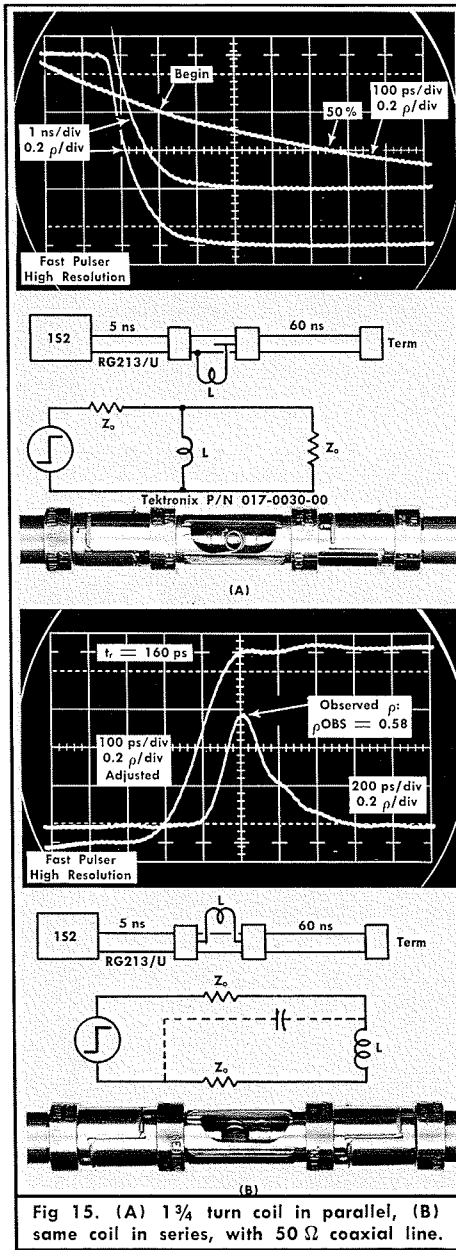

Fig 15. (A) $1\frac{3}{4}$ turn coil in parallel, (B) same coil in series, with $50\ \Omega$ coaxial line.
Fig 15 is an example of TDR displays from a small inductor ($1\frac{3}{4}$ turn) placed in parallel with a $50\ \Omega$ line at (A), and in series with the $50\ \Omega$ line at (B). Calculations were made on Fig 15A first because the display is a clean exponential that permits L/R time constant analysis. Waveforms #1 and #2 of Fig 15A show first the full exponential decay through five CRT divisions, then at #2 the waveform was positioned vertically so the exponential end is at -1 division. Waveform #3 used the same vertical calibration, but was time expanded to obtain the new 100% to 50% time duration.
Fig. 30A shows the basic display. L/R time-constant analysis is similar to that of Fig. 15 and formula (8) of Table 5, except the core R is in parallel with the driving line Z₀.